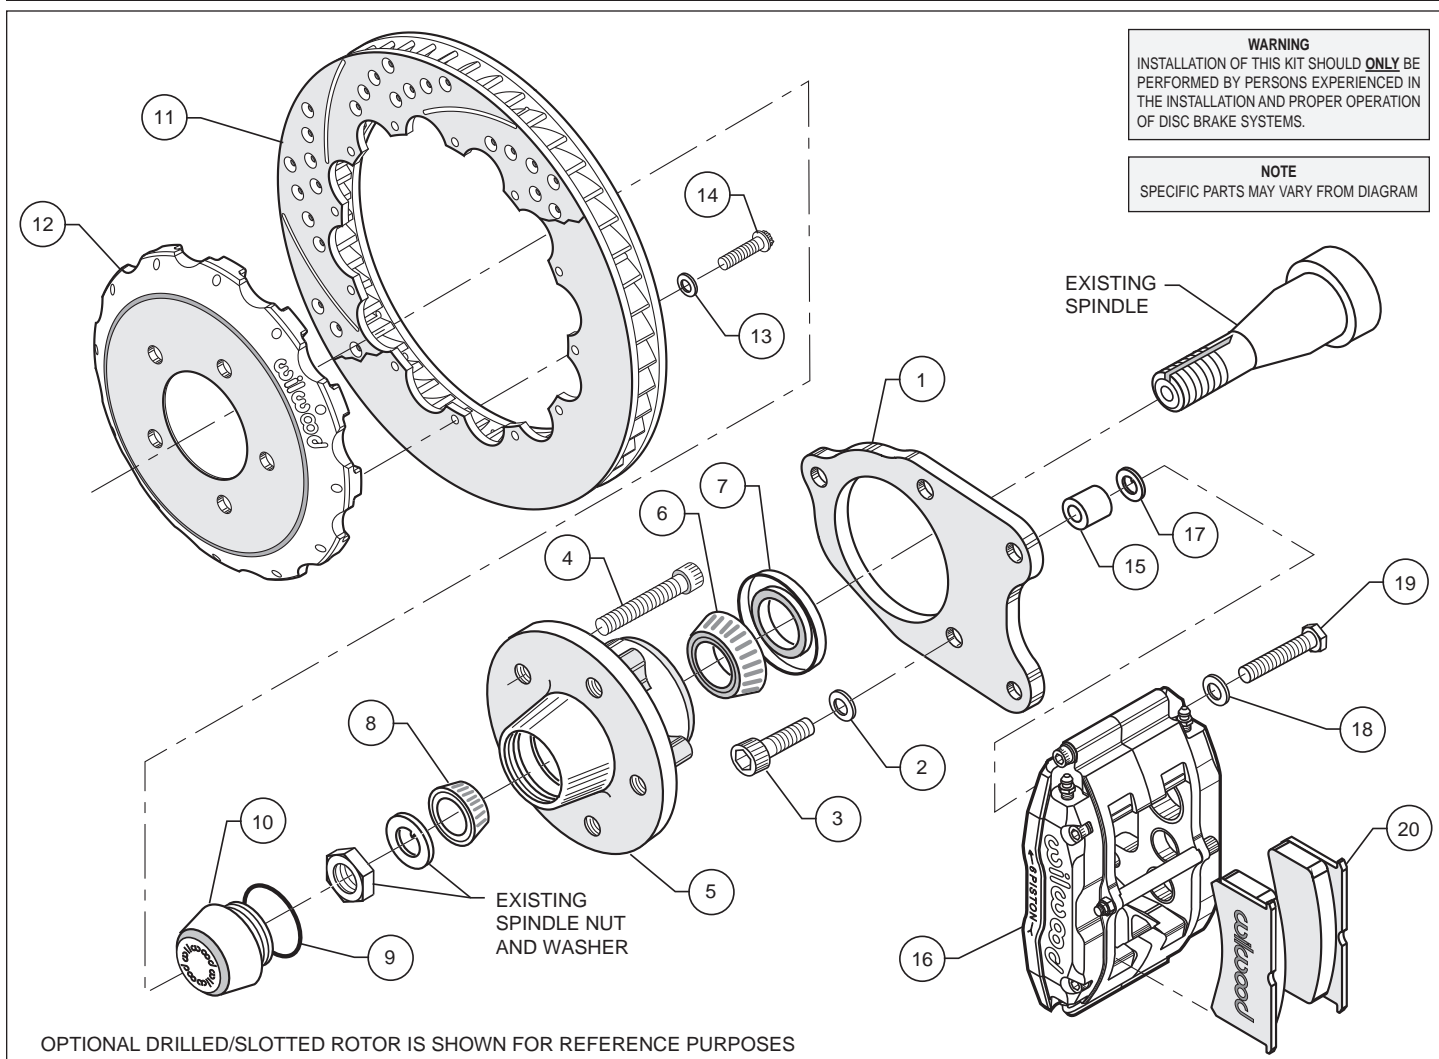
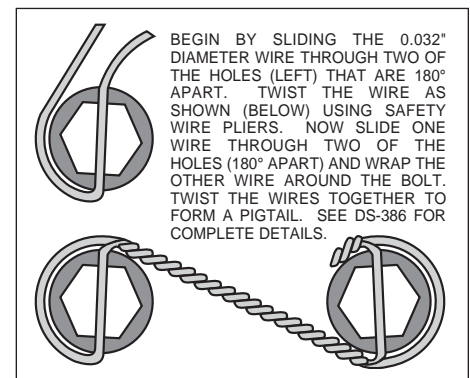

Figure 1. Typical Installation Configuration
Figure 4. Safety Wire Diagram
- Apply red *Loctite*® 271 to bolt threads (3) before assembly of the caliper mounting bracket (1). Mount bracket (1) to face of spindle using washers (2) and bolts (3). Torque bolts to 35 ft-lb. **NOTE:** Be sure the heads of the bracket clinch nuts are facing outboard.
- Install wheel studs (4) into the hub (5). Torque to 77 ft-lb.
- Pack the large inner bearing cone (6) with high temperature disc brake bearing grease (available from your local auto parts store) and install into the backside of the hub (5). Install the grease seal (7) by pressing into the backside of the hub (5).
- Pack the small outer bearing cone (8) with high temperature disc brake bearing grease and install into front of hub (5). Slide the hub with outer bearing cone (8) onto the spindle. Secure using stock washer, adjusting nut and nut locking device. Adjust bearings per Original Equipment Manufacturer (OEM) specifications.
- Install the dust cap (10) onto the hub (5). Friction created by the o-ring (9) on the dust cap (10) keeps it from unscrewing. The O.D. of the existing spindle washer may be larger than the I.D. of the dust cap (10) not allowing it to seat against the hub face. Some grinding on the washer O.D. may be necessary to clear the I.D. of the dust cap (10).
- Orient the rotor (11) and hat (12), as shown in Figure 1. Attach rotor to the hat using washers (13) and bolts (14). Using an alternating sequence, apply red *Loctite*® 271 to the threads and torque bolts to 155 in-lb. For an added measure of security, the bolts may be safety wired using standard 0.032 inch diameter stainless steel safety wire as shown in Figure 4. Please refer to Wilwood's data sheet DS-386 (available at www.wilwood.com/Pdf/DataSheets/ds386.pdf) for complete safety wire installation instructions.
- With the bleed screws pointing up, mount the caliper (16) onto the caliper bracket (1) using bolts (19), and caliper spacer (15) positioned between caliper and bracket, as shown in Figure 1. Finger tighten. View the rotor (11) through the top opening of the caliper. The rotor should be aligned in the center of the caliper. If not, adjust the caliper by using 0.030 inch thick shims (17) placed between the caliper spacer and the caliper, as shown in Figure 1. Finger tighten and recheck alignment. Apply red *Loctite*® 271 to bolt threads and torque to 55 ft-lb.
- Remove the bridge bolt from the caliper (16) and install the disc brake pads (20). Reinstall the caliper bridge bolt.